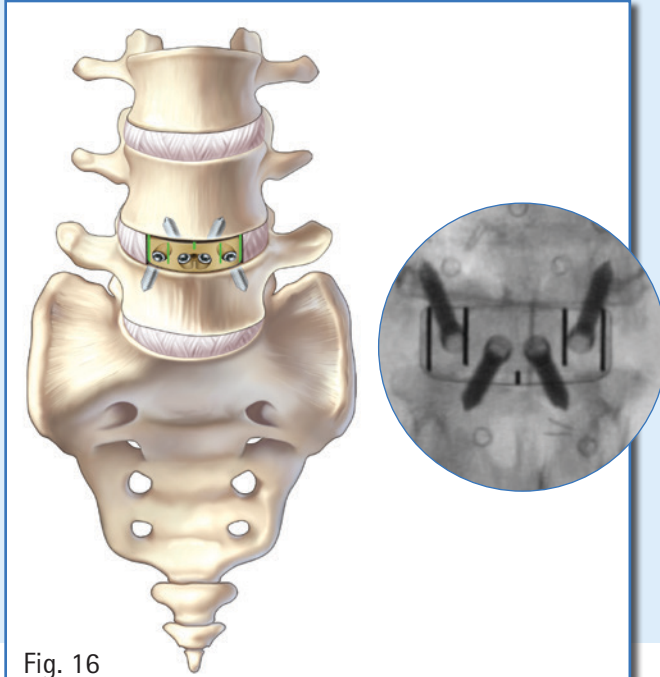

Fig. 16
- The final AP image should confirm midline placement of the device (Fig. 16).
- The final AP and lateral images should reflect neutral alignment of the Arcadius®XP L construct (Figures 16 and 17).
**Note:** The green lines in Figures 16 and 17 represent the location of the implant x-ray markers in both the AP and lateral views.